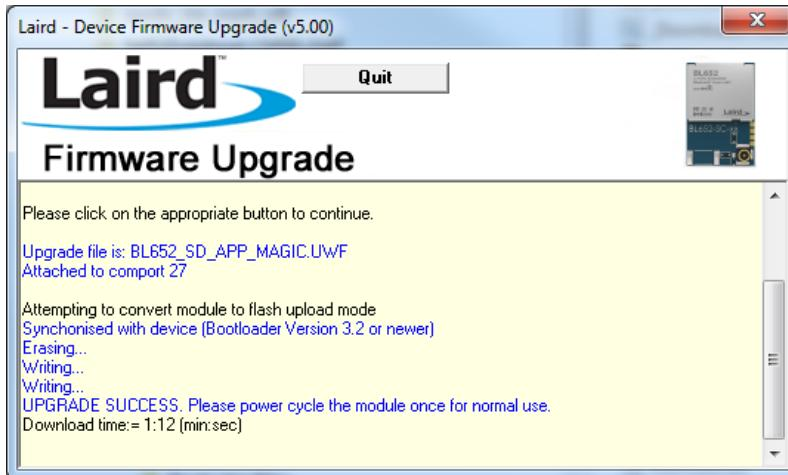

Figure 6: Click **Quit**
12. When the following screen displays (Figure 6), click **Quit**.